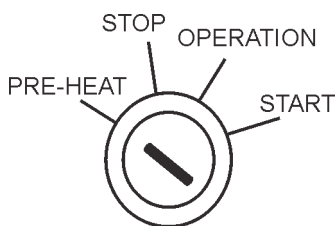

Figure 49. Ignition Switch (Pre-Heat Position)
6. Preheat the engine **glow plugs** by turning the ignition key (Figure 49) to the “**PRE-HEAT**” position.
7. When the preheat lamp luminates (Figure 50), turn the ignition key to the “**START**” position. Once the engine starts, release the ignition key and allow it to return to the “**OPERATION**” position (Figure 49).